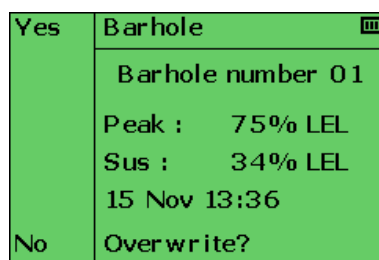

Figure 34: Barhole - Overwrite
- An overwrite confirmation screen will appear (as shown in Figure 34: Barhole - Overwrite). Press **Yes** button to continue with the barhole test or **No** to return to previous screen.